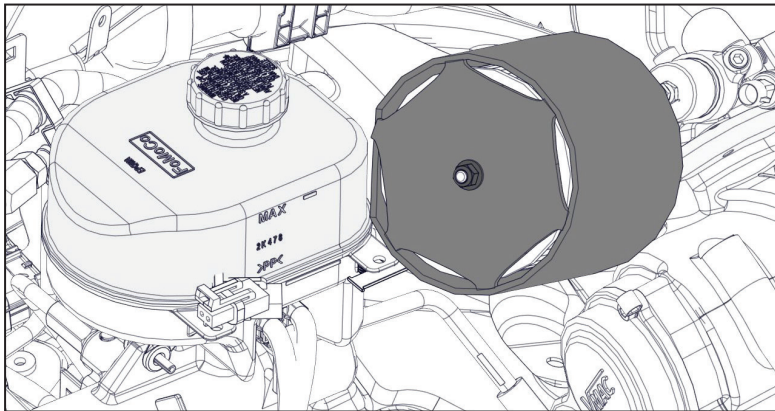

Figure 56 — Air filter cover relief cut
- ☐ **If Required:** Loosen the nut securing the filter cover, rotate the cover to align the relief cut with the brake fluid reservoir and retighten the nut (Figure 56).